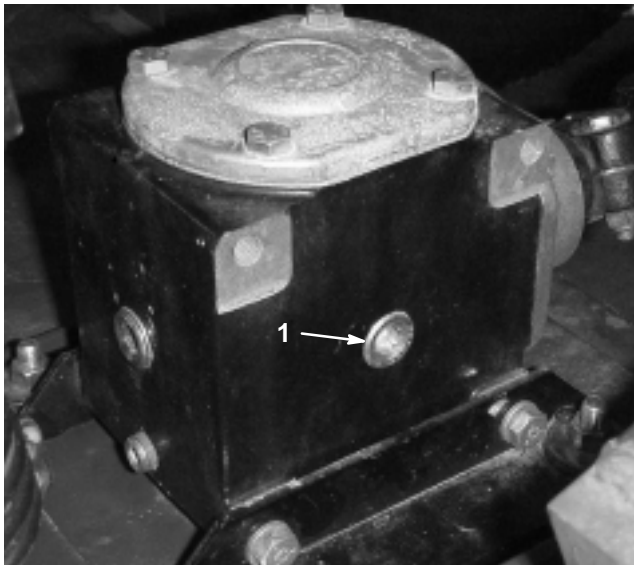

Figure 18
2. Remove the fill/check plug from the side of the gear box (Fig. 18) and make sure that the lubricant is up to the bottom of the hole. If the lubricant level is low, add enough lubricant to bring it up to the bottom of the hole.